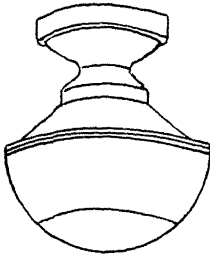

Fig. 6
*Hall.*—It is desirable to locate a fixture so the entire stairs may be illuminated. A fixture close to the ceiling, as shown in Fig. 6, with a 60- to 75-watt bulb, is useful in a low hall. A pendant type of fixture, with a 75- to 100-watt bulb, may be used in a high hall. A glass globe diffuses the light.